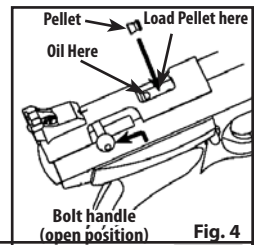

Fig. 4
- Cock the bolt by lifting the bolt handle up and pulling the bolt all the way back (Fig. 4).
- Cock the bolt by lifting the handle up and pulling the bolt all the way back until you hear two clicks (see Fig. 4).